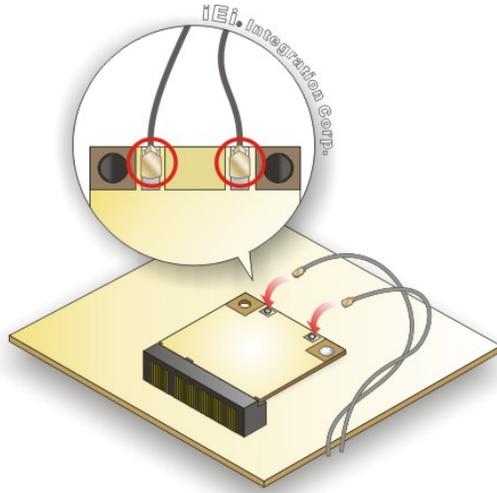

Figure 3-12: Connecting RF Cable
Step 7: Connect the RF cable(s) to the antenna connector(s) on the WLAN/WWAN module (**Figure 3-12**).